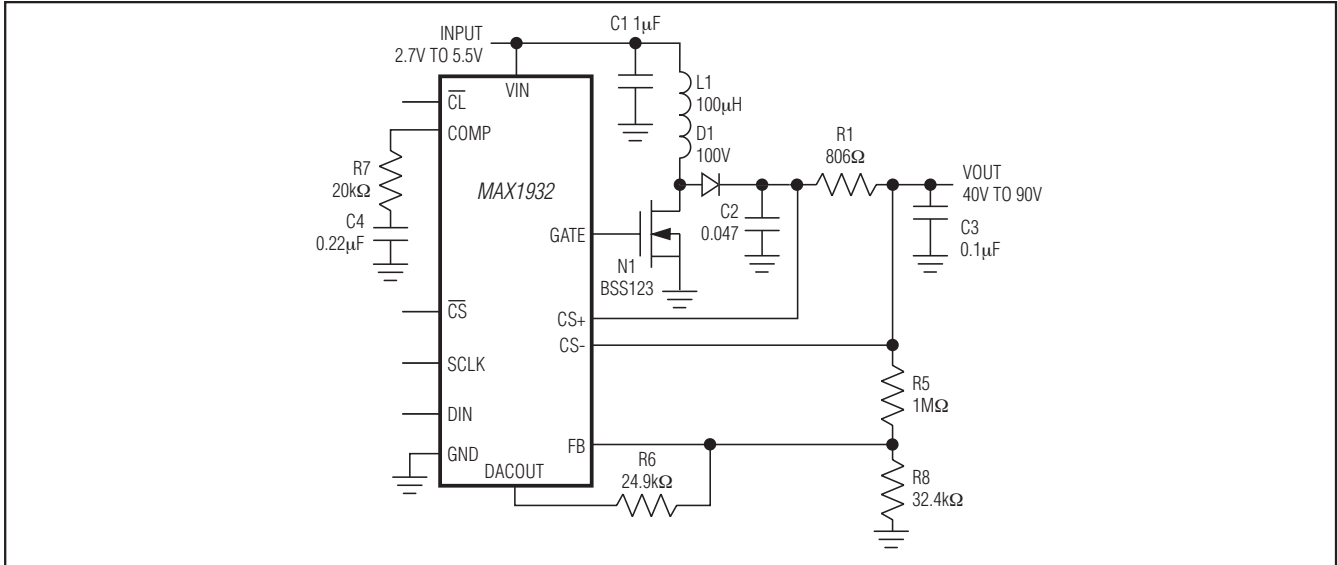
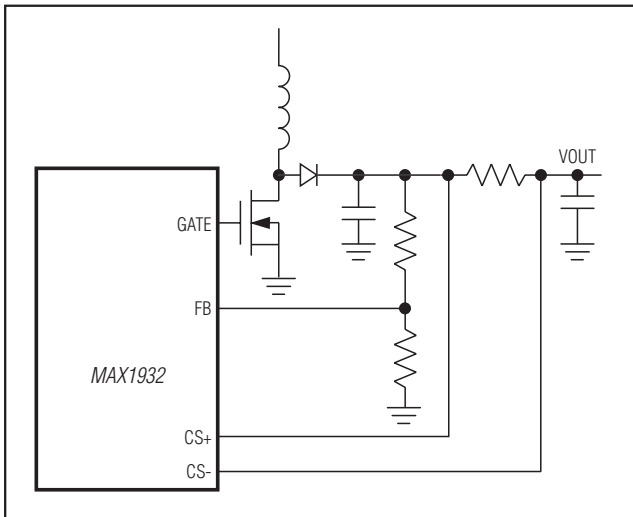

Figure 2. Typical Operating Circuit
Figure 3. Taking Feedback Ahead of Output Filter
The MAX1932 uses an external resistor at CS+ and CS- to sense the output current (see Figure 2). The typical current-limit threshold is 2V.  $\overline{CL}$  is designed to help find the optimum APD bias point by going low to indicate when the APD reaches avalanche and that current limit has been activated. To minimize noise,  $\overline{CL}$  only changes state on an internal oscillator edge.
An internal digital-to-analog converter can be used to control the output voltage of the DC-DC converter (Figure 2). The DAC output is changed through an SPI™ serial interface using an 8-bit control byte. On power-up, the DAC defaults to FF hex (1.25V), which corresponds to a minimum boost converter output voltage.
Feedback can be taken from in front of, or after, the current-limit sense resistor. The current-limit sense resistor forms a lowpass filter with the output capacitor. Taking feedback after the current-limit sense resistor (see Figure 2), optimizes the output voltage accuracy, but requires overcompensation, which slows down the control loop response. For faster response, the feedback can be taken from in front of the current-sense resistor (see Figure 3). This configuration however, makes the output voltage more sensitive to load variation and degrades output accuracy by an amount equal to the load current times the current-sense resistor value.
Many biasing applications require an adjustable output voltage, which is easily obtained using the MAX1932's DAC output (Figure 2).
Adjust the output voltage by connecting a voltage-divider from the output ( $V_{\text{OUT}}$ ) to FB (Figure 2 with R6 omitted). Select R8 between 10k $\Omega$  to 50k $\Omega$ . Calculate R5 with the following equation:
**Table 1. Compensation Components for Typical Circuits (Figure 2)**